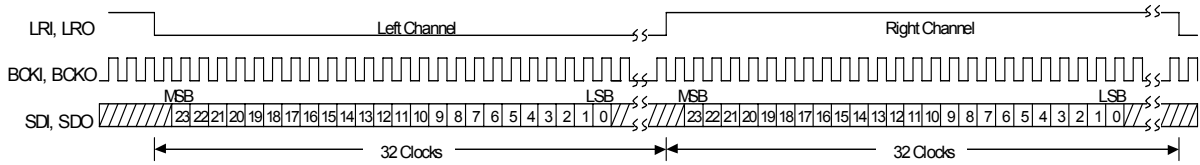
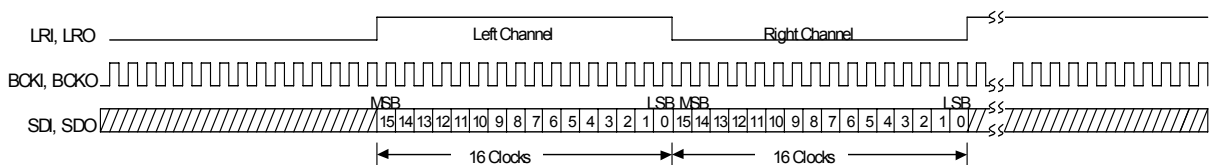

Fig.9-1 I²S Data Format 64fs, 24bit Data
Fig.9-12 Right-Justified Data Format 32fs, 16bit Data
The NJU26200 Series can use three kinds of formats hereafter as industry-standard digital audio data format; (1) I²S (2) Left-Justified (3) Right-justified and 16 / 18 / 20 / 24bits data length. (Fig.9-1 to Fig.9-12)